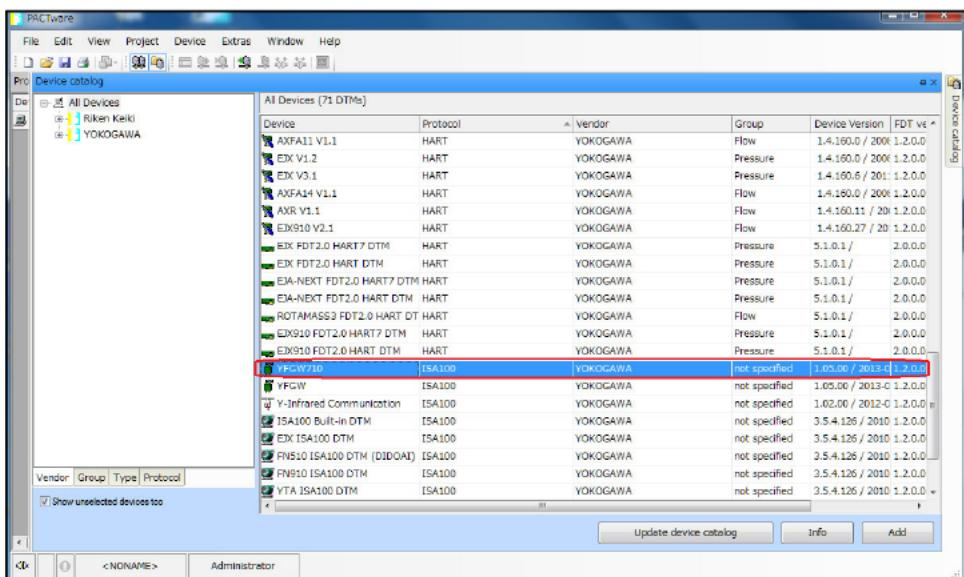

Figure 5-21 DTM list after updating
- ④ Once the list is updated, confirm that “SDWL-1 Device DTM” and “YFGW710” are listed. (Figure 5-21)